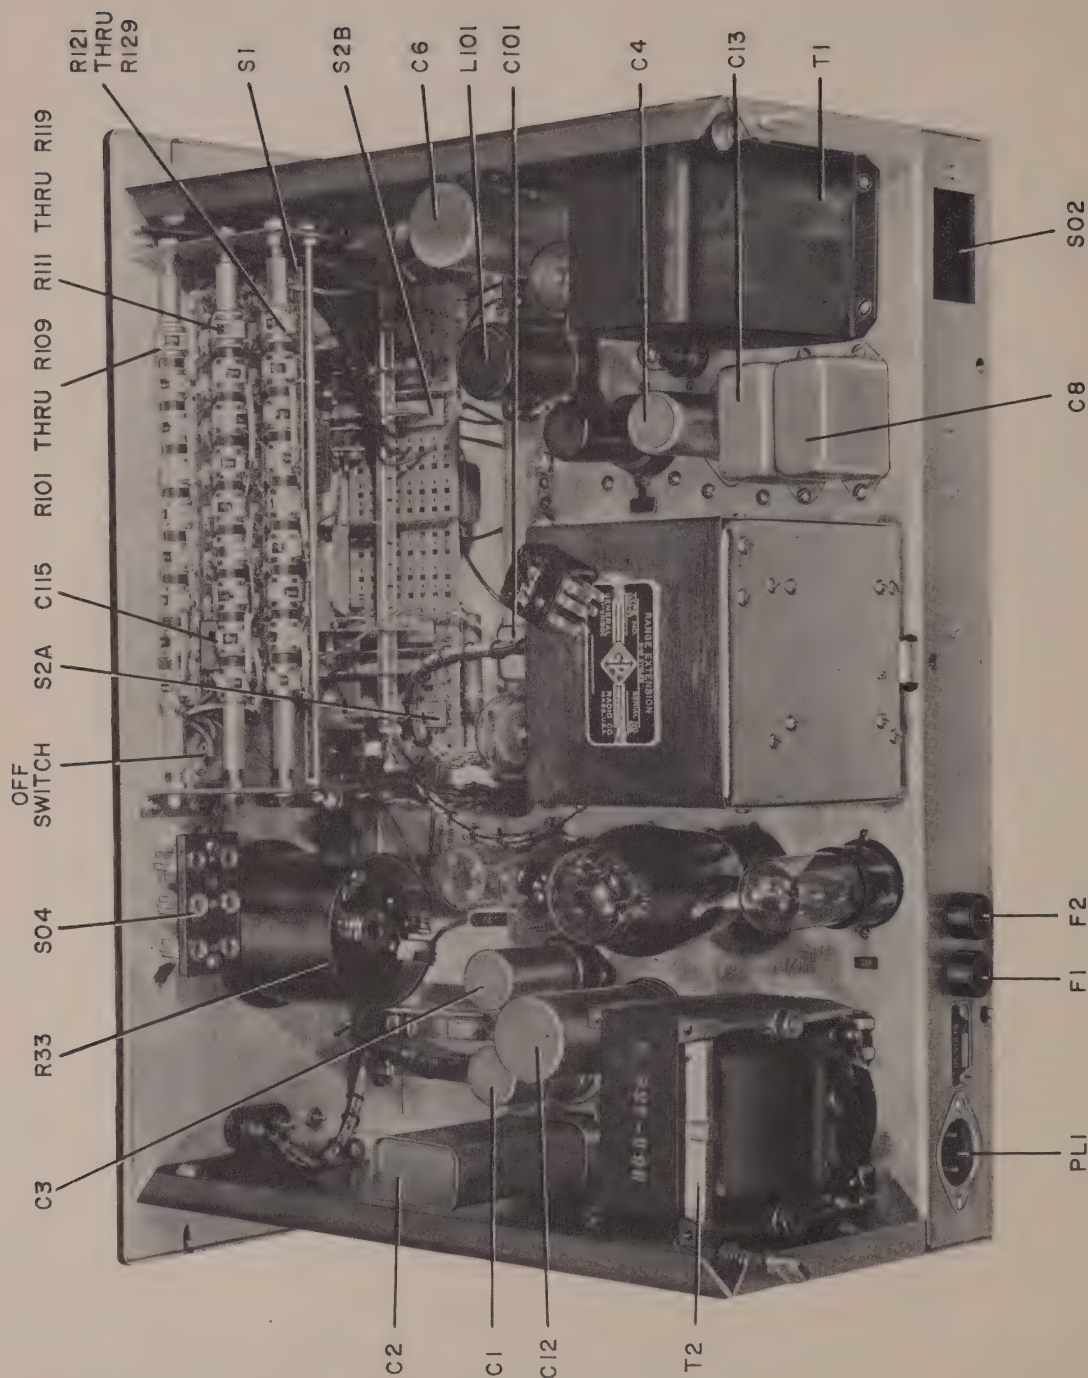

Figure 7. Interior View, Showing Type 1301-P1 Range Extension Unit in Position.
3.2.1 GENERAL. For the location of those components that require readjustment, see the interior views, Figures 7 and 8.